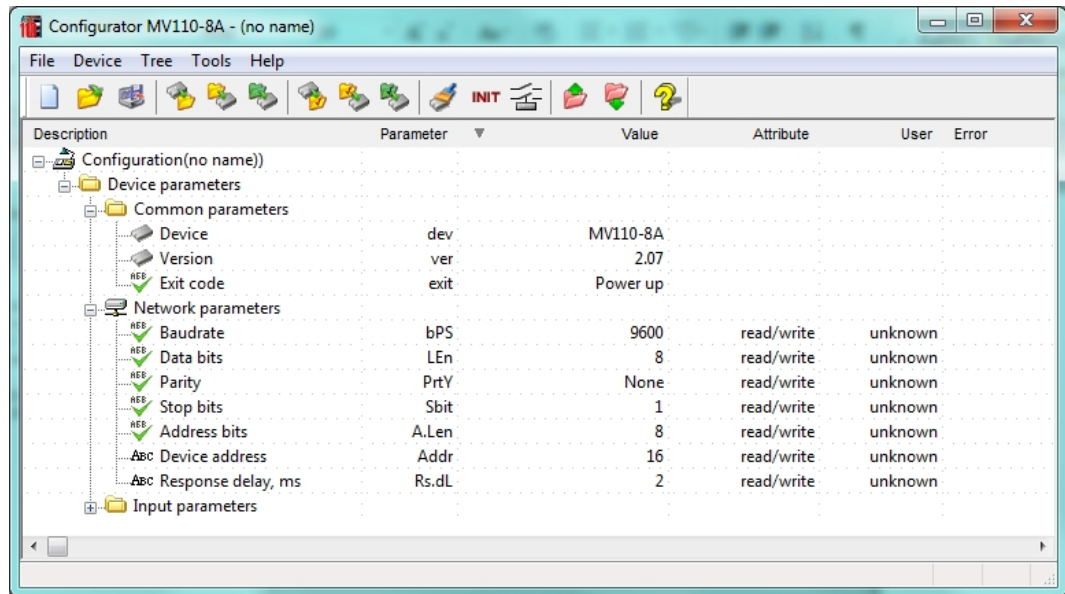

Fig. 8.2 M110 Configurator main window
- The main window of the Configurator opens. Use the 'Device>Read all' menu path to read the user network settings from the device (see Fig. 8.2).